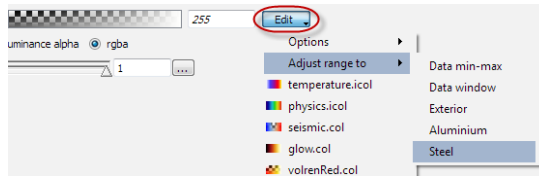

Figure 3.38: Adjusting range in a colormap port
- In the colormap port of the *Volume Rendering* module, you can press the Edit button or right-click in a color shaded area to choose a specific range in menu: entire data min-max, data window excluding *exterior ranges*, or specific range defined (see Figure 3.38). For instance,